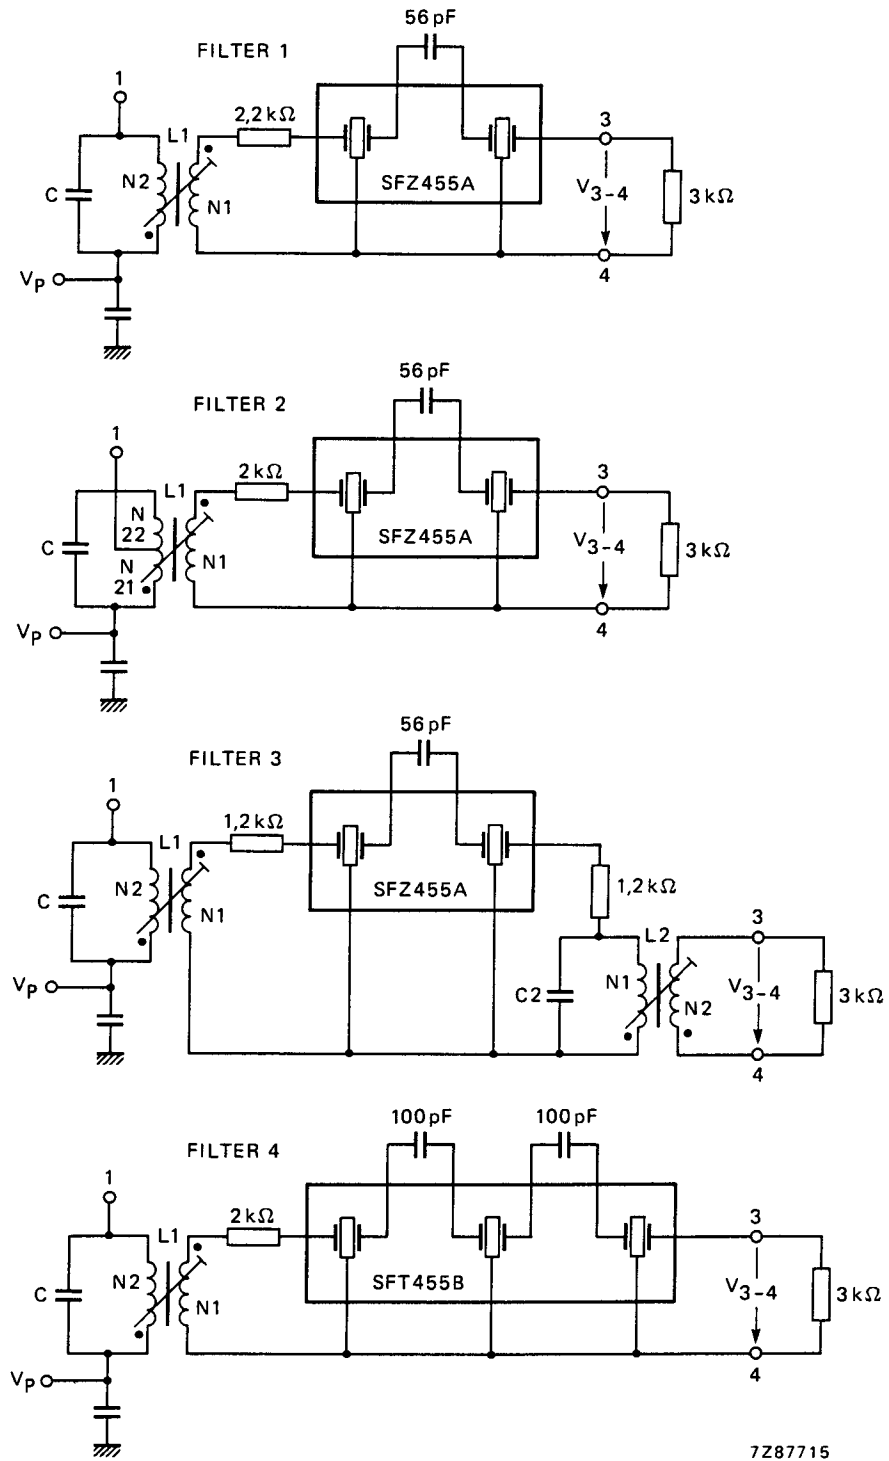

Fig.15 IF filter variants applied to the circuit of Fig.1. For filter data, refer to Table 1.
**Table 1** Data for IF filters shown in Fig.15. Criteria for adjustment is  $Z_F = \text{maximum}$  (optimum selectivity curve at centre frequency  $f_0 = 455 \text{ kHz}$ ).